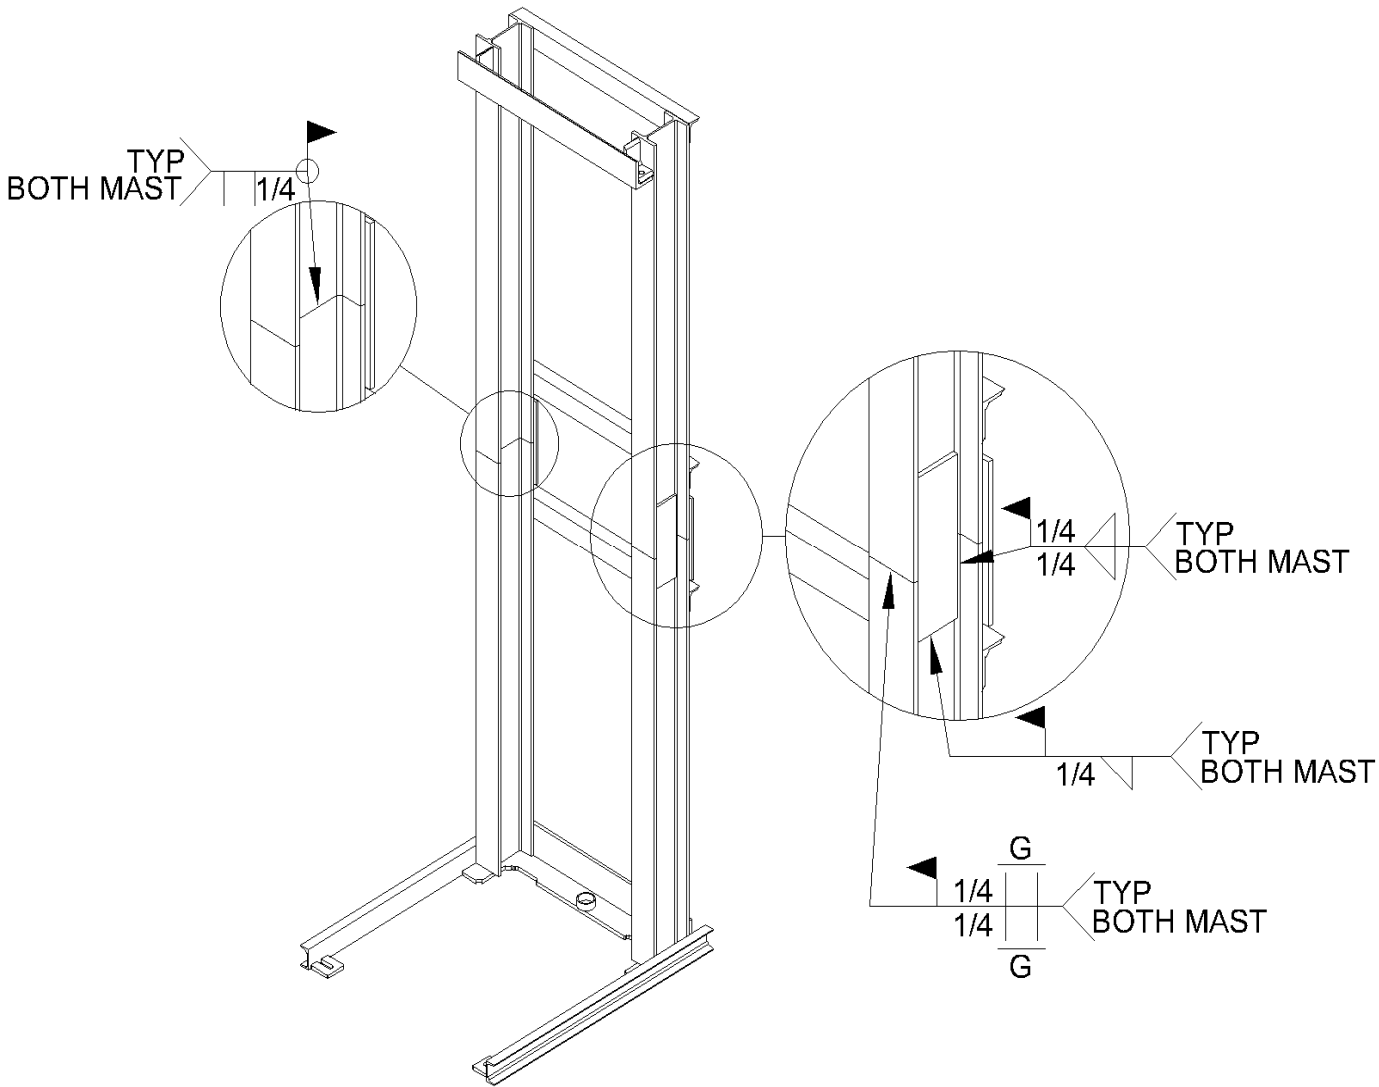

Figure 19 Mast Splice Field Welding
1. Set the upper mast on its respective lower mast in the orientation shown on **Figure 19**, taking necessary precautions not to bend or damage transition plates.